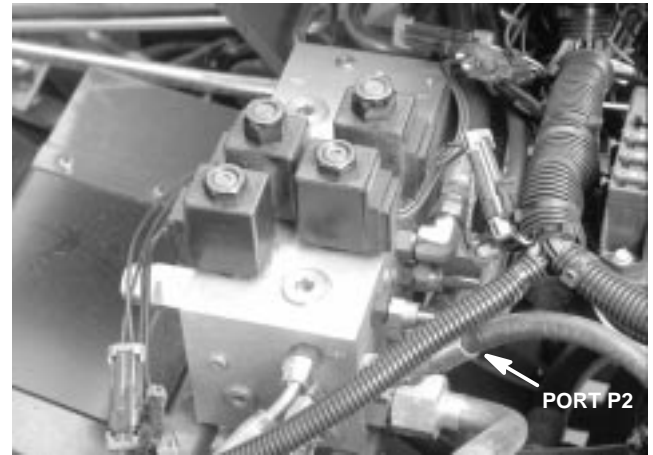

Figure 71
2. Remove screws (28) and steering wheel cap (27) from the steering wheel (5).
3. Remove steering wheel nut (6) from the steering column assembly (15).
4. Remove screws (13) from the speed nuts (25) and steering valve cover (16). Remove cover from the steering cover assembly (14).
6. Cut and remove cable tie (37) from the hose assemblies. Label all hydraulic connections for reassembly.
7. Disconnect hose assemblies (33 and 34) and remove O-rings (35) from hydraulic fittings (17). Allow hoses to drain into a suitable container.
8. Disconnect hose assembly (30) and remove O-ring from 45° hydraulic fitting on hydraulic manifold port P2 (Fig. 71). Allow hose to drain into a suitable container.
2. Install steering column assembly (15) and both cap screws (18) to the steering control valve (23).
3. Install hydraulic fittings (17) and O-rings (29) to the steering control valve (23). Install hose assemblies (30, 31, and 32) and O-rings (29 and 36) to the control valve.
4. Position steering control valve (23) into the steering cover assembly (14) and secure with both screws (7).
5. Connect hose assembly (30) with O-ring to 45° hydraulic fitting on hydraulic manifold port P2 (Fig. 71).